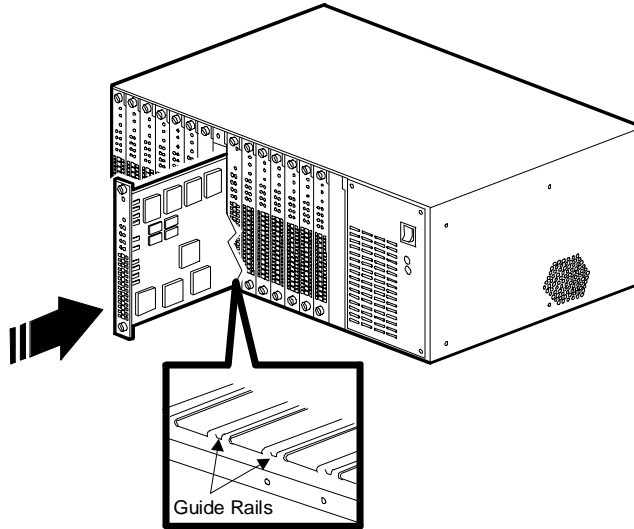

Figure 2-10. Inserting the PRI Main Card
2. Starting at slot 8, hold the card by the edges with the front panel facing towards you and align the card with the metal guides. Refer to Figure 2-10.